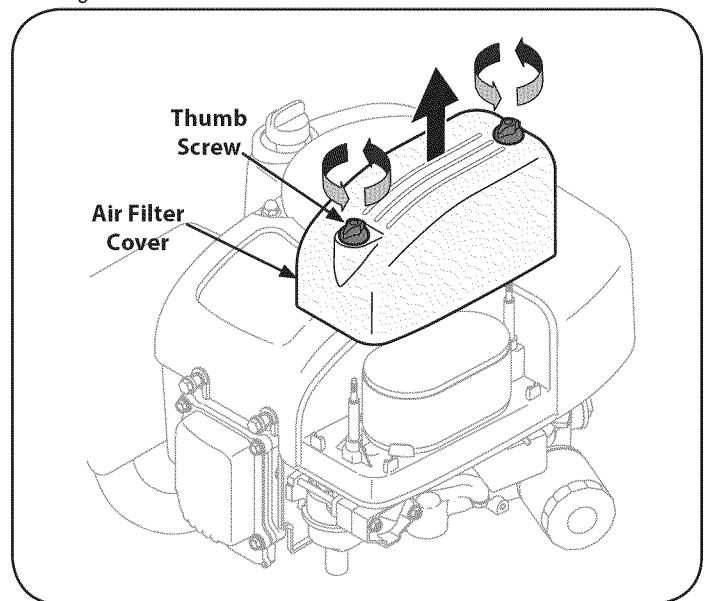

Figure 23
1. Unscrew the thumb screws and remove the air filter cover. See Fig. 23.